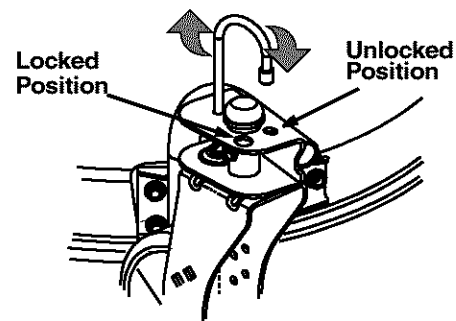

Figure 10
- **To lock caster:** Lift and place the lock pin in the larger hole on each caster. See Figure 10.
- **To unlock caster:** Lift and place the lock pin in the smaller hole to allow casters to rotate freely. See Figure 10.